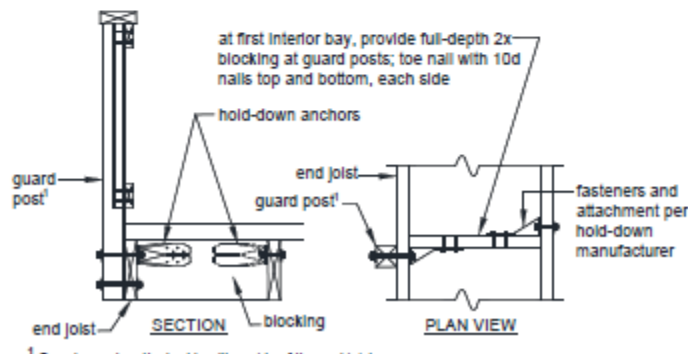

FIGURE 35: GUARD POST-TO-END JOIST
- Notching guard posts, as shown in FIGURE 35, is prohibited.